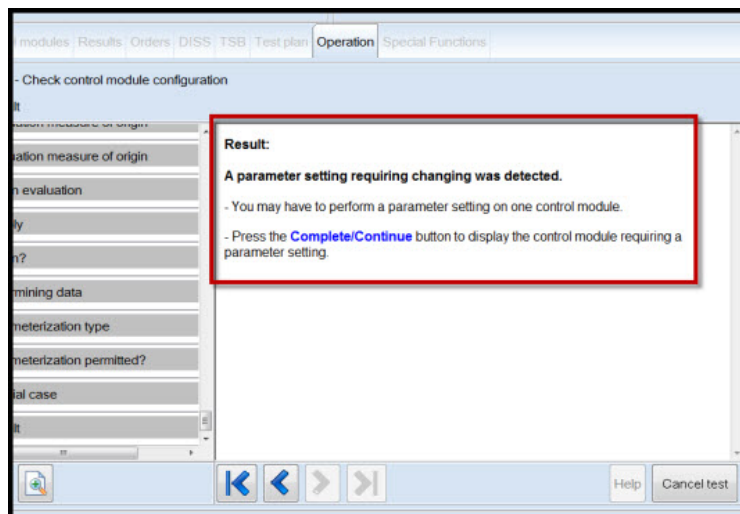

Figure 3. Parameter setting change dialog in ODIS.
2. A dialog box appears to initiate the parameterization update to the access start module (Figure 3). The updated parameters allow the access start module to wait longer to recognize the key in the vehicle. Proceed with updating the parameter setting. The new parameter setting can be recognized by the version "0003" (Figure 4 and Figure 5).